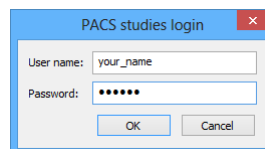

Figure 103 – PACS studies login dialog
1. Set the filter and click the **Search** button. You may be asked to provide your authorization (the valid user name and password) in the **PACS studies login** dialog (see Figure 103).